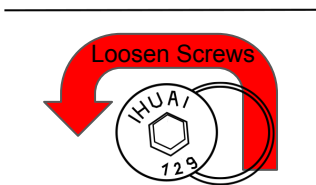

Fig. 18
1. The Muse Titan, along with other Muse models, come with pass-through in the front and back of the machine for projects that may require the use of longer materials, such as signs. All one needs to get the pass-through open is to loosen the screw along the pass-through slot. (see Fig. 18)